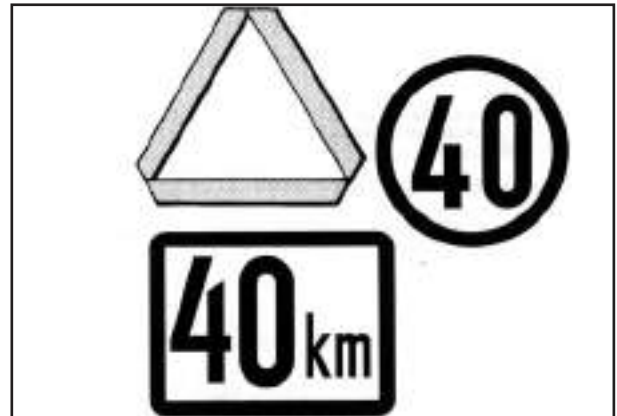

Fig. 16
- Make sure that the compulsory plaques are in place (Fig. 16).